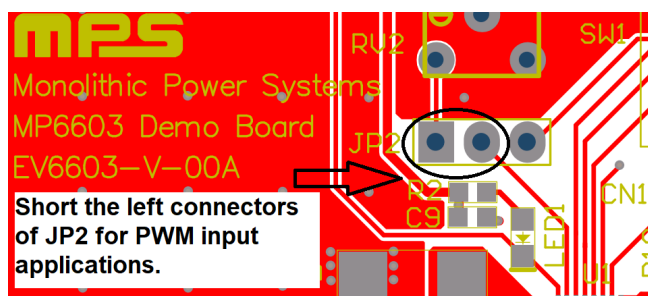
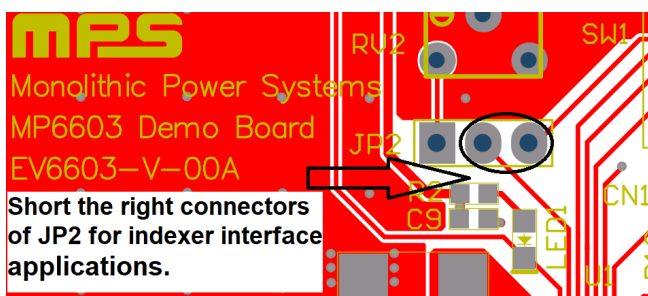

Figure 1: Set-Up JP2 for PWM Input
Figure 2: Set-Up JP2 for Indexer Interface
4. The MP6603 features two configurable input modes. The IN_SEL pin configures the input interface. To drive a DC motor with a pulse-width modulation (PWM) input interface, set IN_SEL = GND. To drive a stepper motor with an indexer interface, set IN_SEL = V_{CC} . The evaluation board's JP2 must be set accordingly. Figure 1 shows the set-up for a PWM input. Figure 2 shows the set-up for an indexer interface.